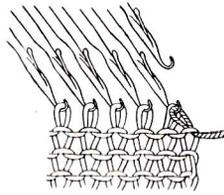

Fig. 60
- a. On the same side of the carriage, transfer the end stitch to the 2nd needle. (See Fig. 60)